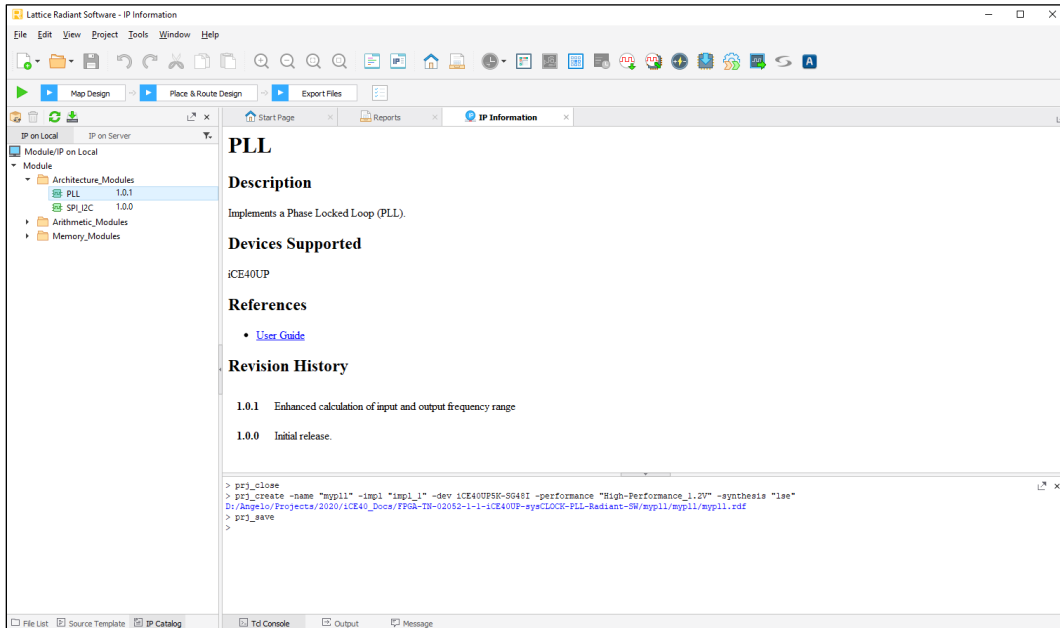

Figure 4.4. IP Catalog
7. In IP Information, shown in Figure 4.4, click IP Catalog on the lower left corner of the window.